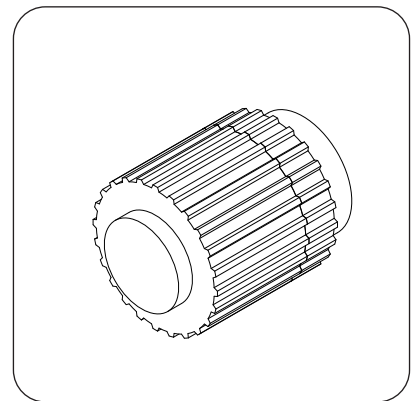
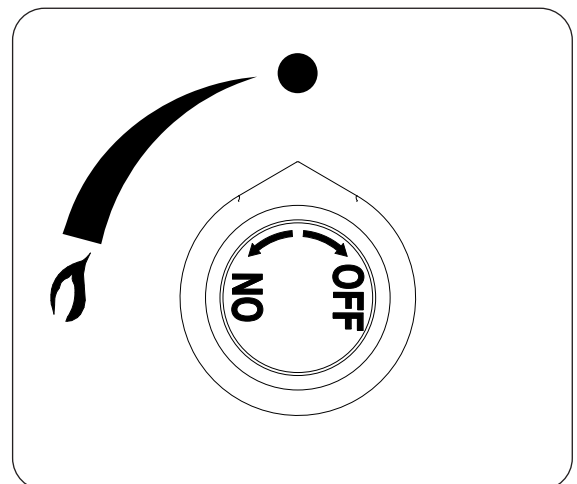

Fig. 41-1 Igniter button detail
Fig. 41-2 Control knob detail
2. Locate the control panel on the side of the unit (refer to the IDENTIFICATION PARTS LIST if needed), and identify the igniter button (Fig. 41-1) and gas control knob (Fig. 41-2). Ensure the gas control knob is in the OFF position before beginning the lighting sequence.
To extinguish your gas burner, turn the gas control knob clockwise to the **OFF** position (see Fig. 41-2). Be sure the control knob is turned fully off to avoid any gas leakage.